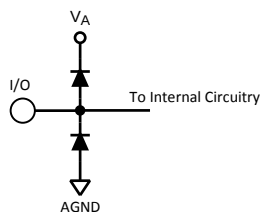

Figure 2.
- (1) The inputs are protected as shown below. Input voltage magnitudes above V_A or below GND will not damage this device, provided current is limited per Note 4 of the Absolute Maximum Ratings Table. However, errors in the A/D conversion can occur if the input goes above V_A or below GND by more than 100 mV. As an example, if V_A is +3.3V, the full-scale input voltage must be $\leq +3.4V$ to ensure accurate conversions. See Figure 2.
- (2) To ensure accuracy, it is required that $|V_A - V_D| \leq 100\text{ mV}$ and separate bypass capacitors are used at each power supply pin.
- (3) With the test condition for $V_{REF} = +1.0V$ (2V_{P-P} differential input), the 12-bit LSB is 488 μV .
- (4) Typical figures are at $T_J = 25^\circ\text{C}$, and represent most likely parametric norms. Test limits are ensured to TI's AOQL (Average Outgoing Quality Level).
- (5) Integral Non Linearity is defined as the deviation of the analog value, expressed in LSBs, from the straight line that passes through positive and negative full-scale.
- (6) Optimum performance will be obtained by keeping the reference input in the 0.8V to 1.2V range. The LM4051CIM3-ADJ (SOT-23 package) is recommended for external reference applications.
- (5) I_{DR} is the current consumed by the switching of the output drivers and is primarily determined by load capacitance on the output pins, the supply voltage, V_{DR} , and the rate at which the outputs are switching (which is signal dependent). $I_{DR} = V_{DR}(C_0 \times f_0 + C_1 \times f_1 + \dots + C_{11} \times f_{11})$ where V_{DR} is the output driver power supply voltage, C_n is total capacitance on the output pin, and f_n is the average frequency at which that pin is toggling.
- (6) Excludes I_{DR} . See DC and Logic Electrical Characteristics, Note 5.
- (4) Timing specifications are tested at TTL logic levels, $V_{IL} = 0.4V$ for a falling edge and $V_{IH} = 2.4V$ for a rising edge.
- (5) Typical figures are at $T_J = 25^\circ\text{C}$, and represent most likely parametric norms. Test limits are ensured to TI's AOQL (Average Outgoing Quality Level).